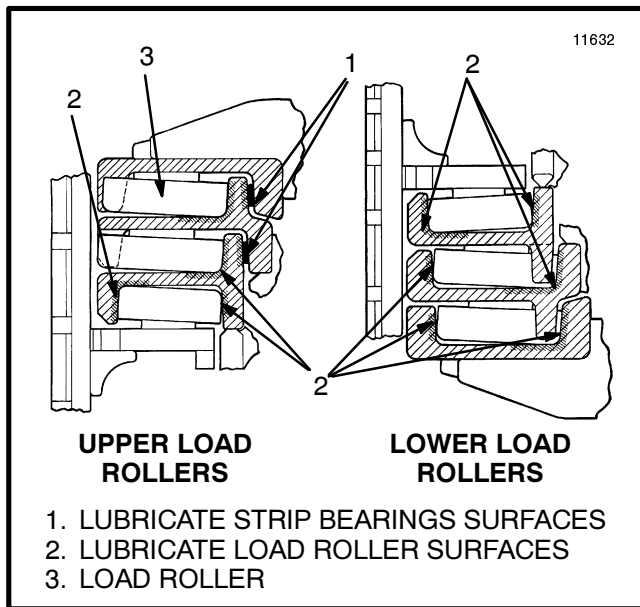

FIGURE 12. LUBRICATE THE MAST
MAST (See FIGURE 12.)
2. Lubricate the sliding surfaces and the load roller surfaces along the *full length* of the channels as shown in FIGURE 12. Only apply lubricant to surfaces that are clean and dry. Only apply lubricant to the darker areas like those indicated by 1 and 2.